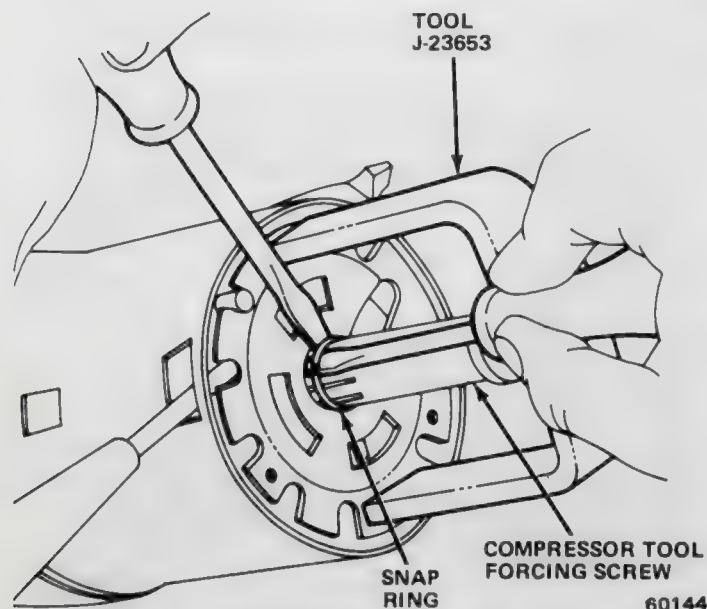

Fig. 2H-7 Steering Shaft Snap Ring Removal
- (b) If shaft has American threads, use Lockplate Compressor Tool J-23653 as is to compress lockplate and unseat snap ring (fig. 2H-7).
- (c) If shaft has metric threads, replace compressor tool forcing screw with Metric Forcing Screw J-23653-4 before installing tool on steering shaft (fig. 2H-7).
- (10) Remove lockplate compressor tool and snap ring. Discard snap ring.
- (11) Remove lockplate, canceling cam, upper bearing preload spring, and thrust washer from shaft.